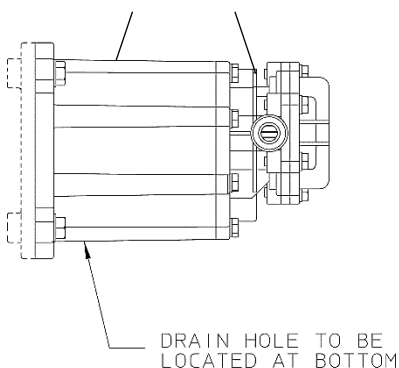

Figure 2e.
- If the pump ports are rotated to any position other than the standard horizontal position, for the non-metallic Eclipse (shown in Figure 2e) rotate the pump center housing, Item 14, relative the motor adapter spool, Item 20. For the metallic Eclipse (not shown) this applies to center housing Item 1 and motor adapter spool Item 14. Do not rotate the combined sub-assembly of both the center housing with the motor adapter spool relative to the motor. Failure to observe this could lead to the drain port on the motor adapter spool being out of position. If containment can leakage occurs in this arrangement, chemical will not properly drain leading to serious motor damage.